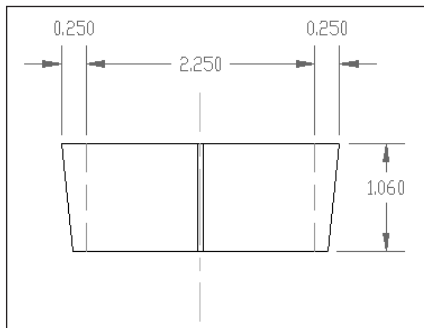

Figure 14-42: The edited valve part
7. Save your drawing. It should look like Figure 14-42.